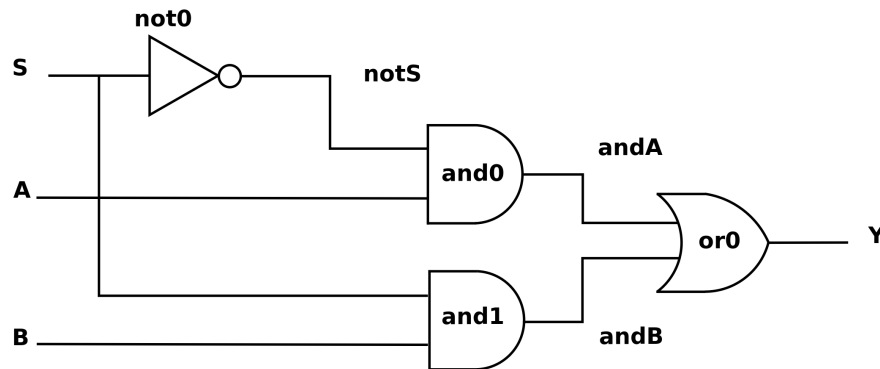

Figure 1: Gate-level Schematic of a 1-bit wide, 2:1 MUX
gate-level schematic in Figure 1 labels the module ports, internal wires, and gate instance names according to the provided Verilog code.
2. Next we will create a Verilog source file which describes the 2:1 MUX in Figure 1.